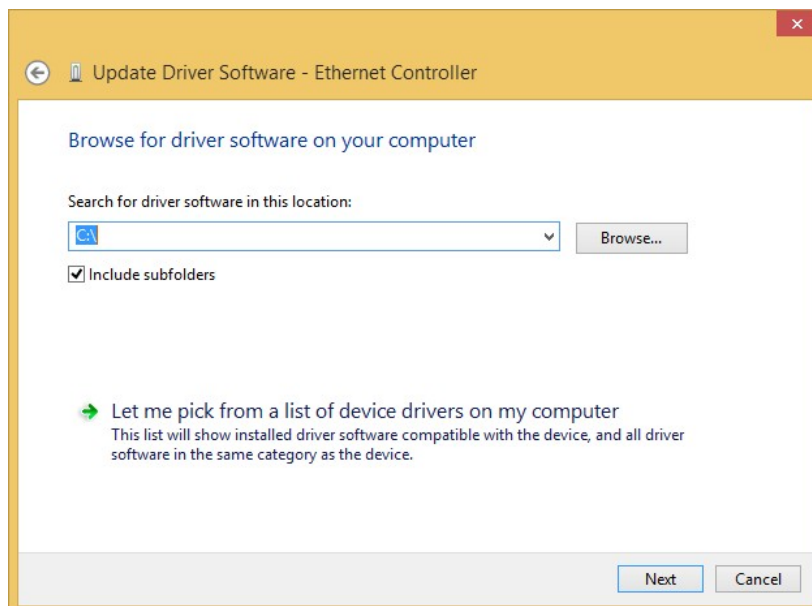

Figure 6-17: Locate Driver Files
Step 9: Click Browse to select “X:\I2-LAN\Intel” directory in the **Locate File** window, where “X:\” is the system CD drive. (Figure 6-17).